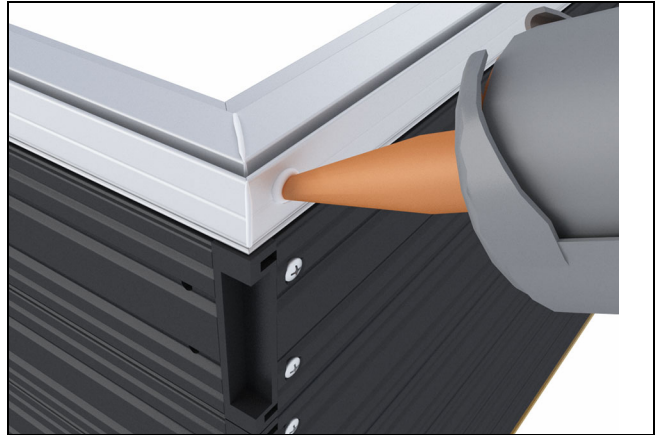

Figure 81
11. Inject both frame cladding corner key holes with sealant until squeeze out occurs. Fasten using #8 x 1 1/2" screw into each corner key. See figure 81.